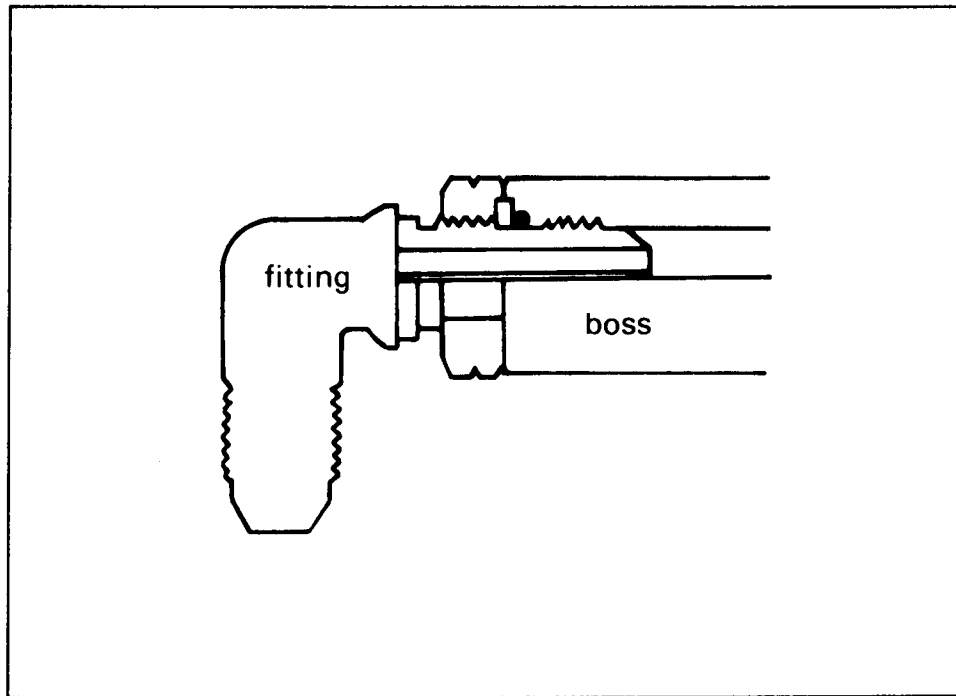

**Figure 3-22. Leather backup ring installed.**
**Leather Backup Rings.** Leather backup rings must be inspected for defects before reuse. Defective rings must be discarded. Figure 3-22 shows a leather backup ring properly-installed.